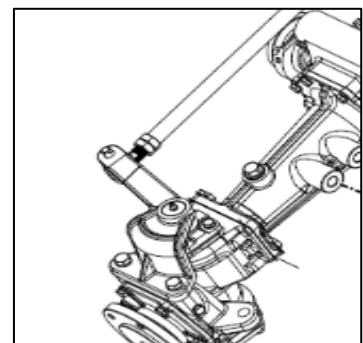

Fig.5.7
1. Periodically check to make sure that the radiator (D (Fig. 5-7) is not clogged.